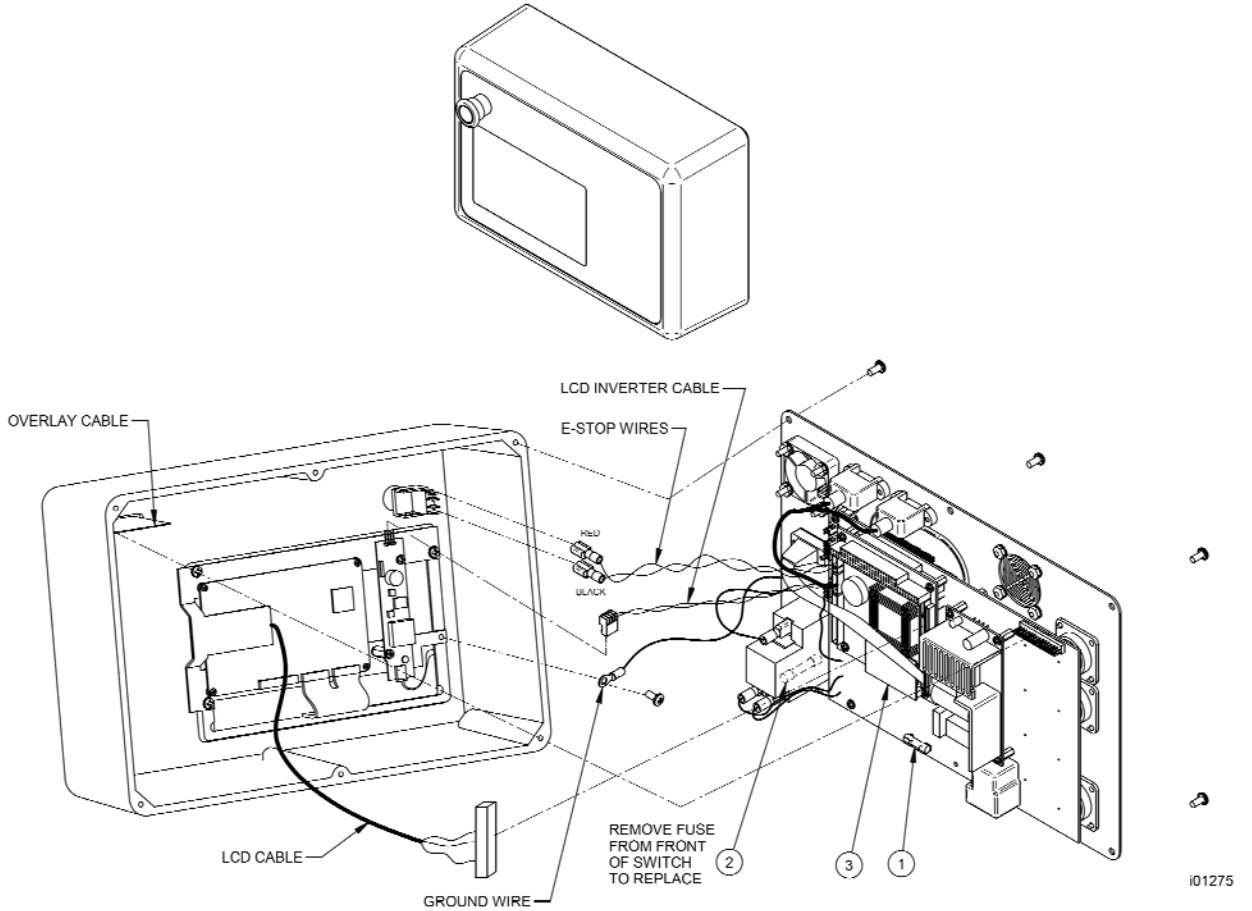

Figure 5-1
5.1.4 Computer Module and LCD Enclosure Replacement (figure 5-1)
To tighten the spindle belt, loosen the bottom nut "A" under the motor bracket and use the top nut "B" to tighten the belt. See figure 5-1. Make sure the tension on the belt is such that there is no slippage when the lathe is started at its maximum speed. Check the belt tension by pulling on one of the belts in the mid-span of its travel with a scale until you reach 15 lbs. on the scale. At this point the deflection of the belt relative to the other belt should be no more than 1/2". If the deflection is more than 1/2" tighten the belt.
4. The motor is secured with four screws to the motor mounting plate. See figure 5-1.